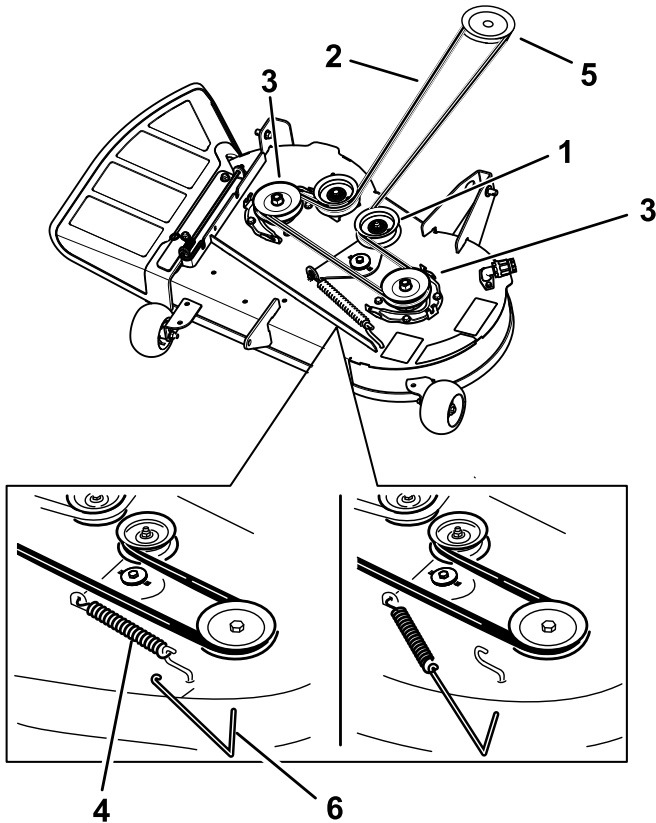

Figure 48
- Using a spring-removal tool (Toro Part No. 92-5771), remove the idler spring from the deck hook to remove tension on the idler pulley, and roll the belt off the pulleys (Figure 48).
6. Route the new belt around the engine pulley and mower pulleys (Figure 48).
7. Using a spring-removal tool (Toro Part No. 92-5771), install the idler spring over the deck hook and place tension on the idler pulley and the mower belt (Figure 48).